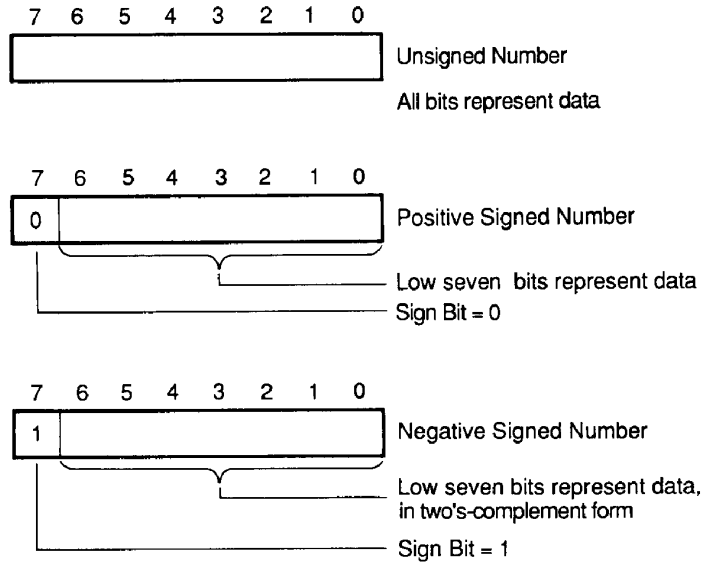

Figure 0-2
When a byte contains a signed number, only the seven low-order bits (0 through 6) represent data; the high-order bit (7) specifies the sign of the number. *The sign bit is 0 if the number is positive or zero, and 1 if it is negative.* Figure 0-2 shows the arrangement of unsigned and signed bytes.